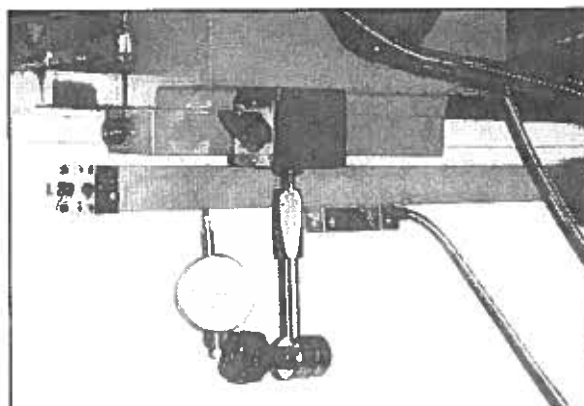

Figure 18. Aligning the backing plate with a dial indicator.
1. If the surface is not machined, mount the backing plate and use the set screws to adjust the backing plate. Check with a dial indicator (**Figure 18**), and adjust the backing plate until the scale is square and perpendicular to the machine slides.